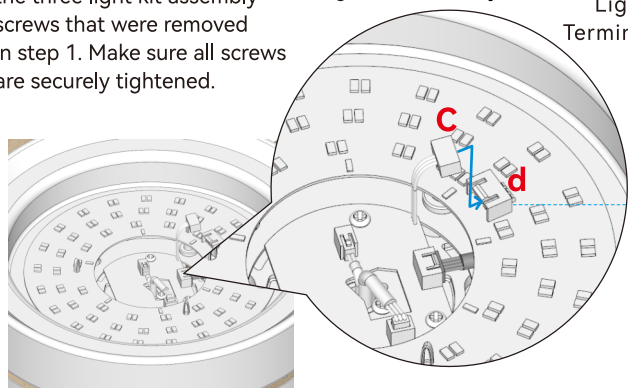

Fig 3.2
3.5 Insert the wire plug (c) into the light kit terminal block (d) on the light kit as shown in Fig 3.2.